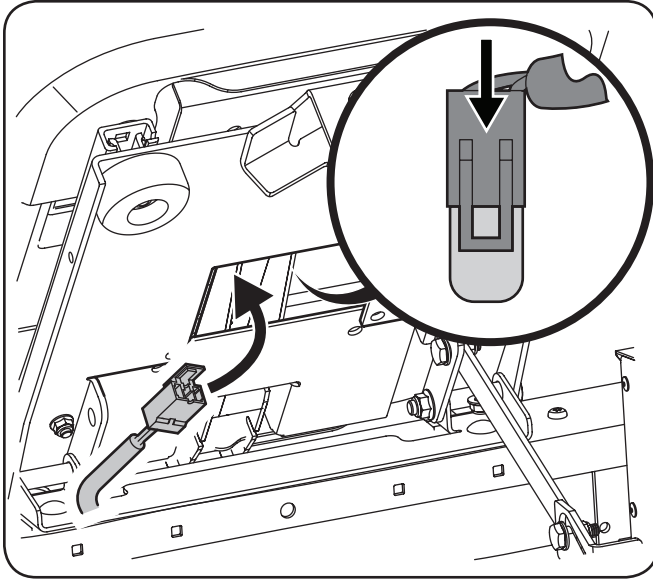

Figure 3-12
4. Insert the wiring harness into the bottom of the seat as shown in Figure 3-12.